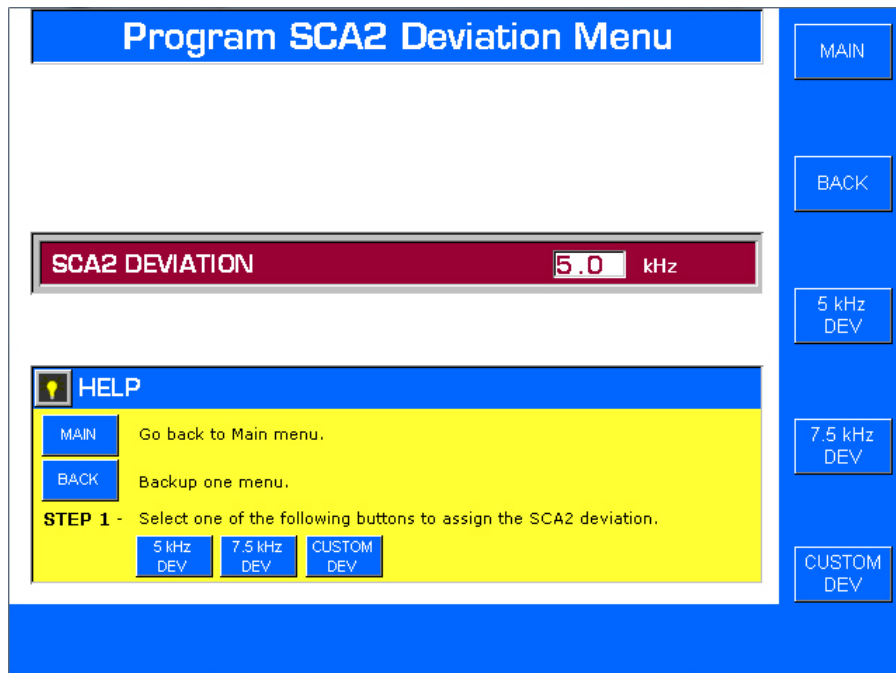

Figure 3-26. INTERNAL PROGRAM SCA2 DEVIATION MENU
- A. From SCA2 menu depress SCA2 DEV. The Internal Program SCA2 Deviation Menu will appear (refer to Figure 3-26).